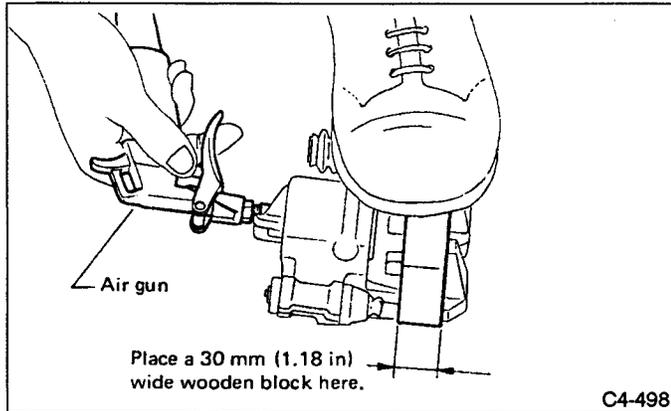

Fig. 71
- a. Place a wooden block as shown in Fig. 71 to prevent damage to piston.